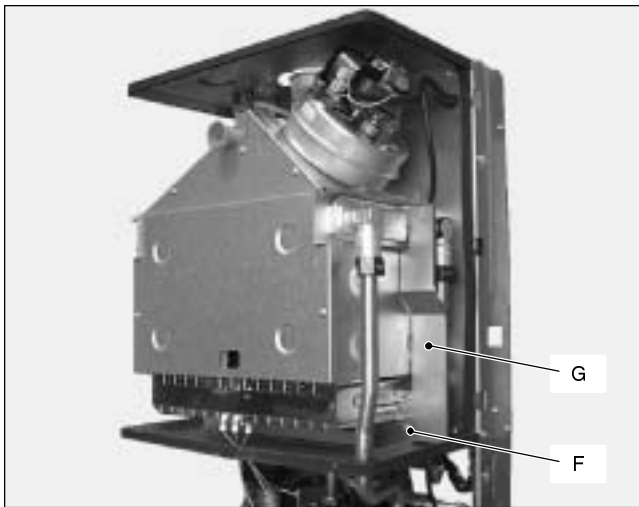

Fig. 68
- 4b For models M90.28S and M90.28SR only, remove the screw *F* and the plate *G* (Fig. 68).
- 3b For models M90.28S and M90.28SR, remove also the plate G (see Fig. 68 on page 33).